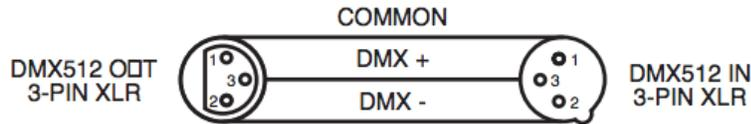

Figure 1
4. Fill the cooler box with clean water. The bottom water tank will fill as water is added to the cooler box. Be sure not to exceed the warning water line (*Figure 1*). During use, if the water level is insufficient, the unit will stop functioning and the menu will be inaccessible.